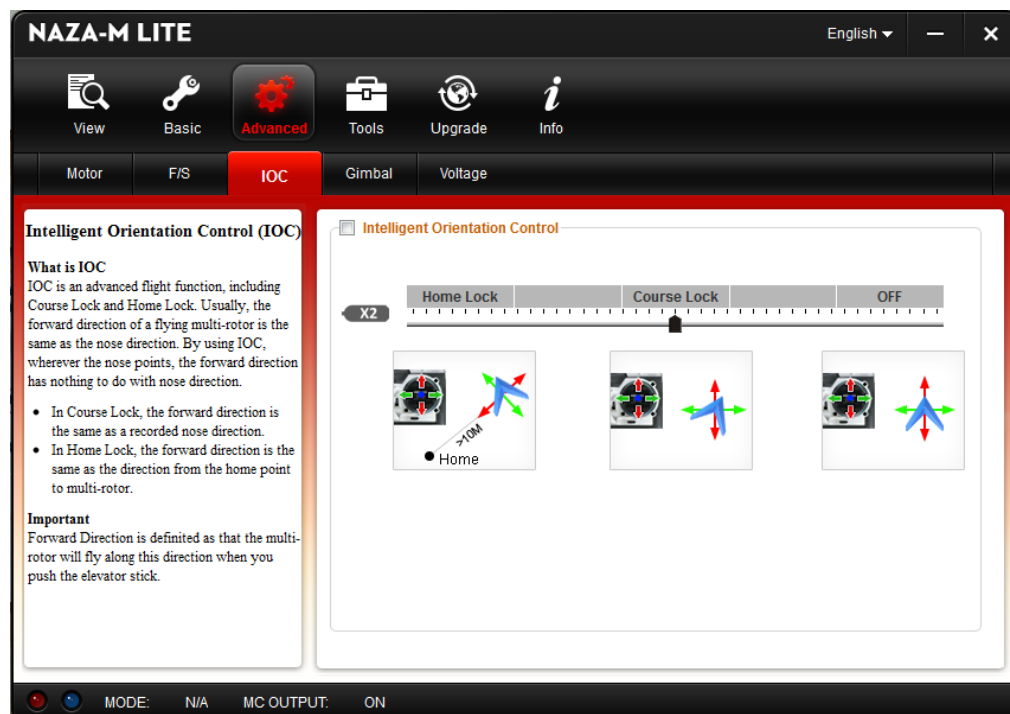

Figure 13: “IOC” page.
- “**Intelligent Orientation Control**” is a function that allows the user to lock the quadcopter into a particular flight mode (see Figure 13).